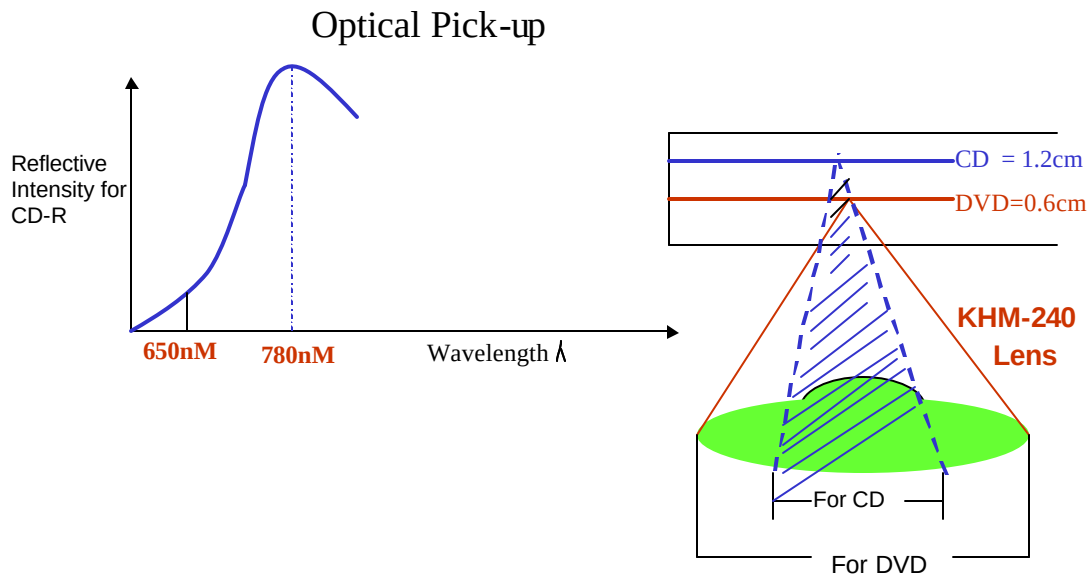

FIGURE 1-2
Figure 1-2 shows that maximum CD-R disc reflection (RF) occurs at 780nm. Since –R or +RW discs have lower reflectivity than stamped discs (reflectivity also varies from brand to brand) output is maximized if two lasers are used: one operating at 648nm for DVDs and another at 780nm for CDs.
The DVD disc information layer is at a height determined by the spindle motor hub. This is considered as the mechanical focus center of the lens. As the optical block moves towards the outside of the disc, disc warp increases. At the points where the disc is angled up by warp, the focus point also moves up to compensate. Raising the focal point causes the lens to change its angle and remain perpendicular to the disc. Conversely, when the disc angles down (Figure 1-2 B), the lens focus goes below center and the lens tilts in the opposite direction.